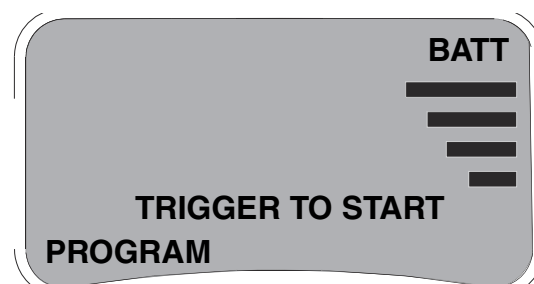

FIG. 3
1. To turn on the power to the RF Signal Tester insert a fully charged battery. See FIG. 1. The RF Signal Tester powers on to the main screen. See FIG. 3.